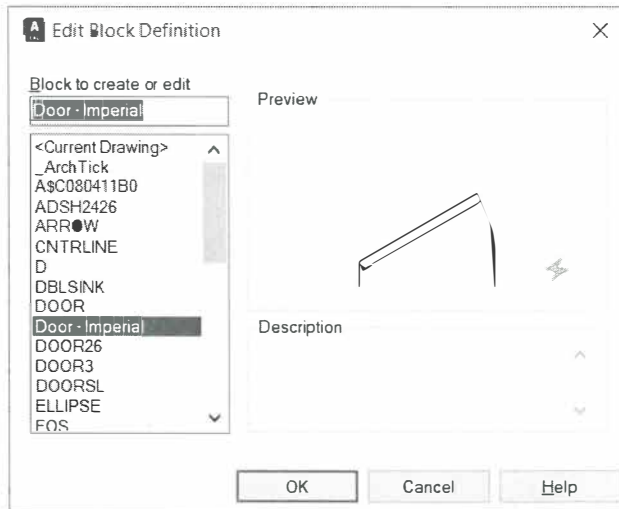

Figure 5–7
2. In the Edit Block Definition dialog box (as shown in Figure 5–7), select the block that you want to edit and click **OK**.